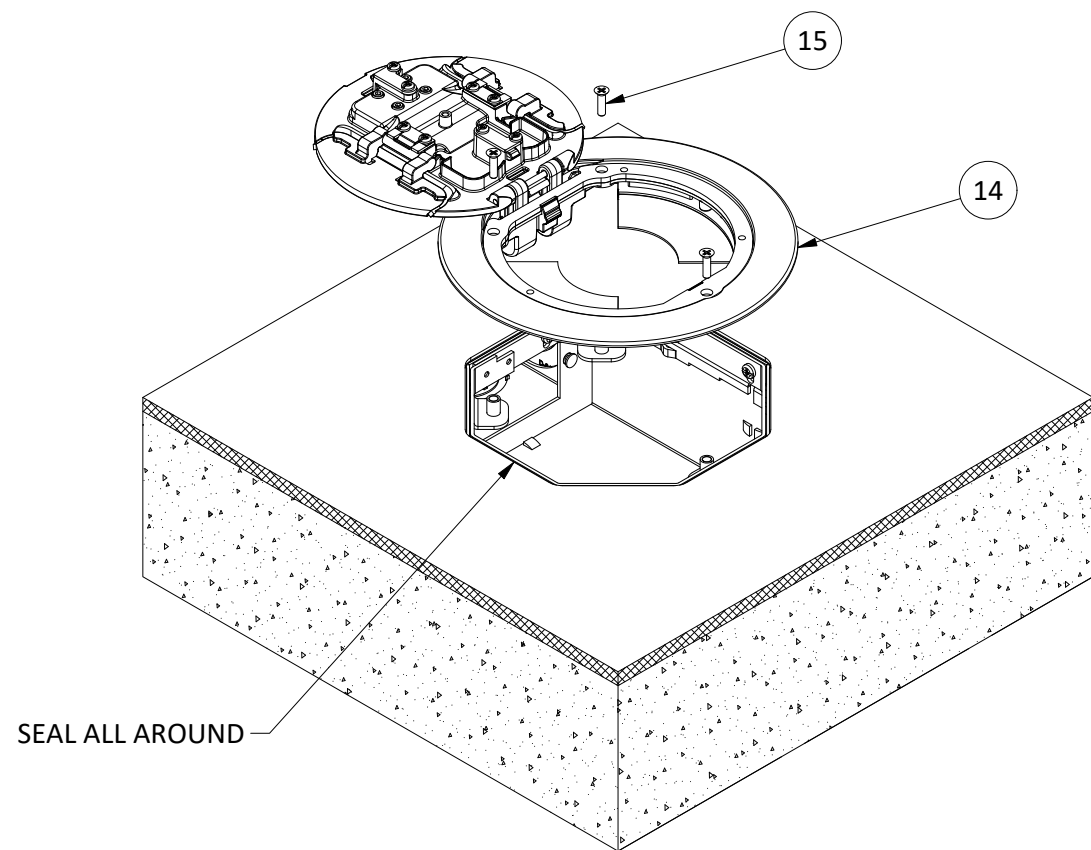

FIGURE 6
20. For thicker floor finishes use accessory collars (CFB6RCVRR series), sold separately. Seal the gap around the cover support collar [12] with a continuous bead of electrical grade type RTV silicone sealant (SEE FIGURE 6).